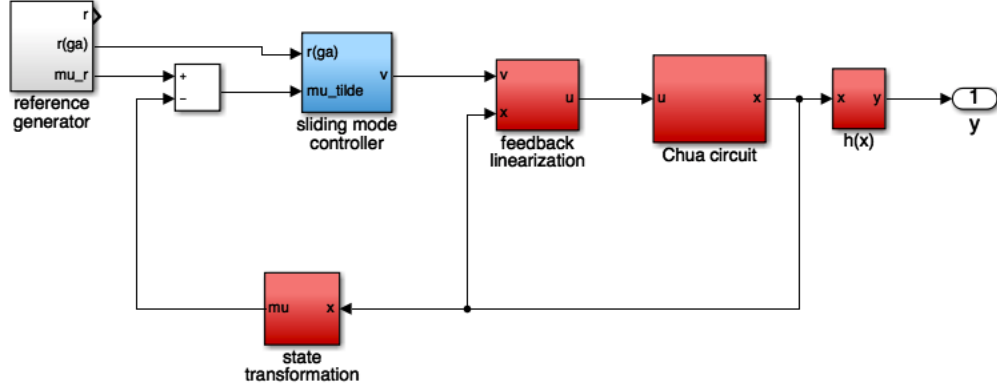

Figure 1: Chua circuit control scheme.
1. Following the feedback linearization methodology, design the ‘feedback linearization’ and ‘state transformation’ blocks in Figure 1. The resulting general control law is
2. Implement in Simulink the red blocks in Figure 1.
where  $k_1$  and  $\eta$  are parameters to tune (this law corresponds to the blue block in Figure 1). A possible tuning procedure is the following: